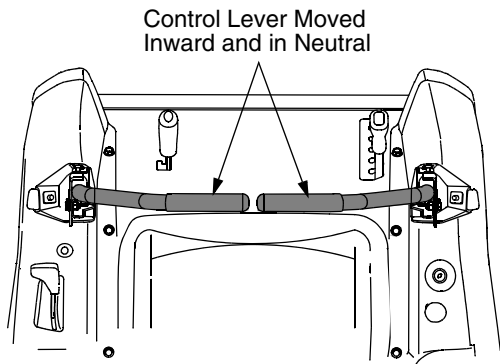

Figure 11
- Move the RH and LH drive control levers inward in the neutral position. Refer to Figure 11.